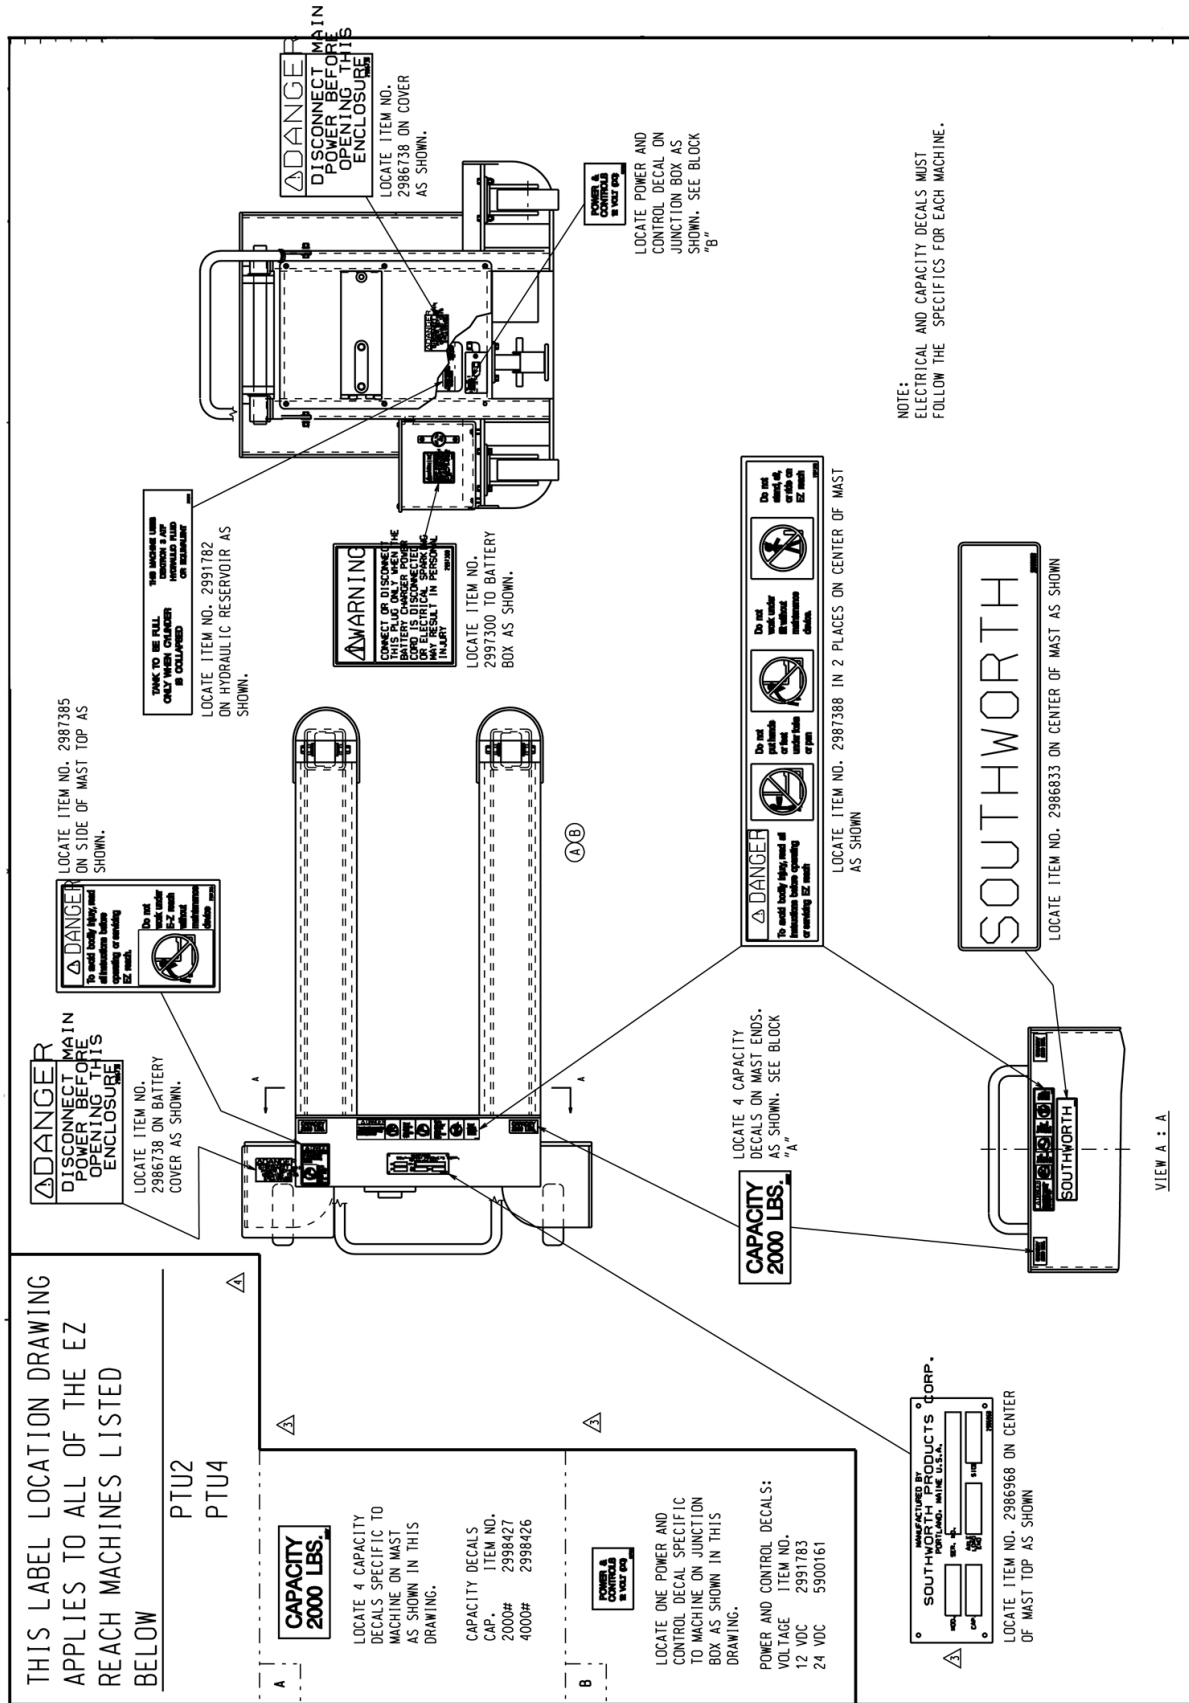

Figure 1. Safety Labels
5. Figure 1 shows the safety labels on this unit. Check to be sure all of the labels are in place. For complete label locations, see page 6.
If the labels are worn or missing, or have been painted over, replace them before releasing the lift for operation. Fig. 1 shows the safety markings on this unit.